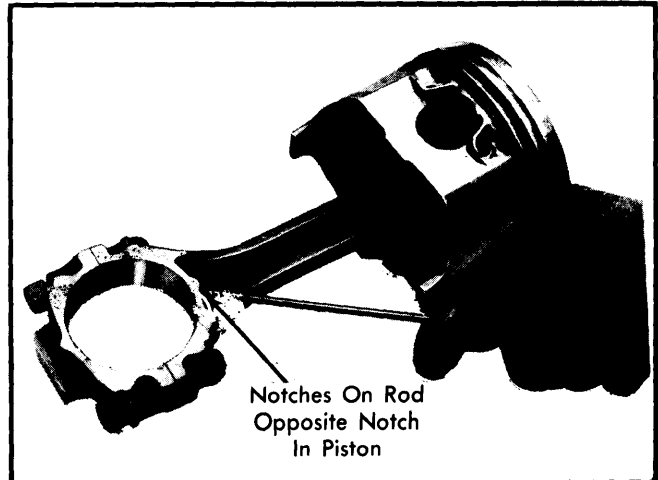

Fig. 3 Connecting Rod Thrust Side Identification
**Installation** – When installing piston rings, make sure markings on compression rings face up (top of piston). Lightly coat pistons, rings and cylinder bores with motor oil. Compress piston rings using suitable ring compressor. Install piston and rod assembly in cylinder bore, making sure notch in top of piston faces front of engine. See Fig. 3. Lubricate bearing, install rod cap and tighten nuts.